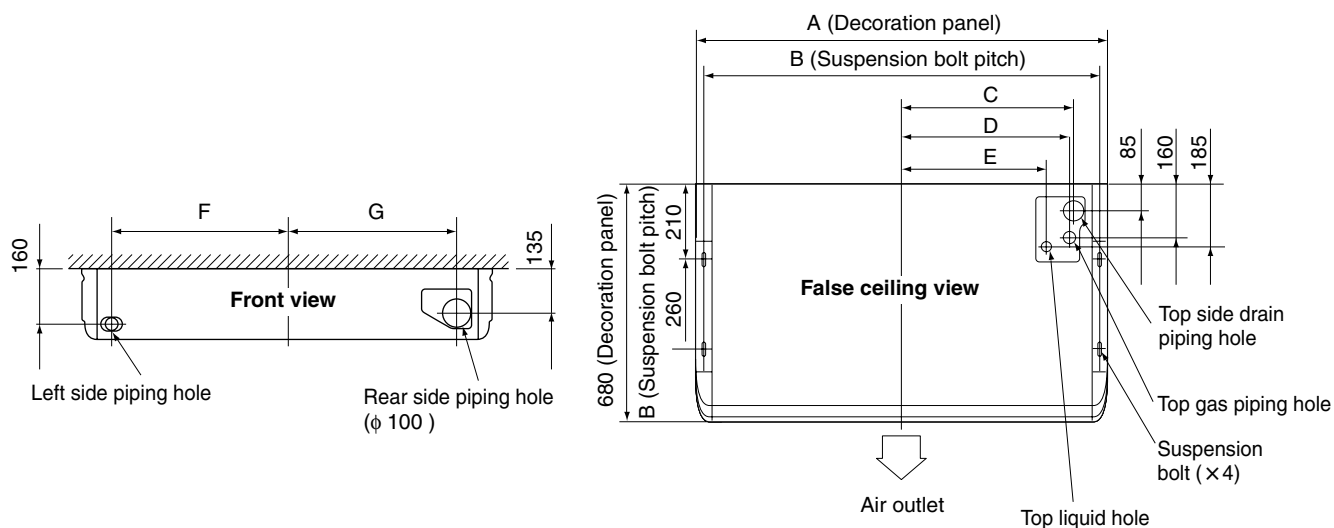

Fig. 2
- (1) Relative positions of indoor unit, suspension bolt, piping hole, drain piping hole, and electric wire hole position. (Refer to Fig. 2)